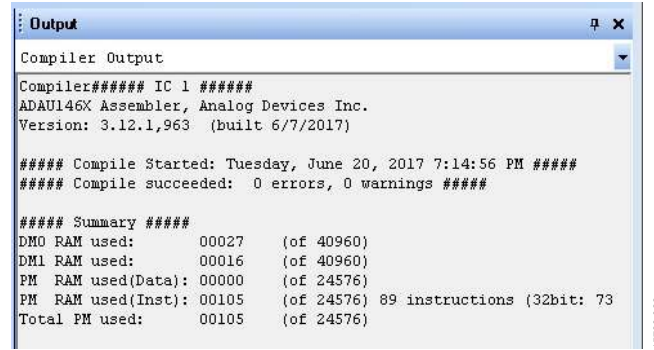

Figure 31. Compiler Output Window
- If the **Output** window is open at the time of compilation, a compiler output log displays, as shown in Figure 31. The **Output** window can be opened or closed by using the keyboard shortcut CTRL + 4. The **Output** window shows the compiler output log only if it was open when the **Link/Compile/Download** button was clicked.